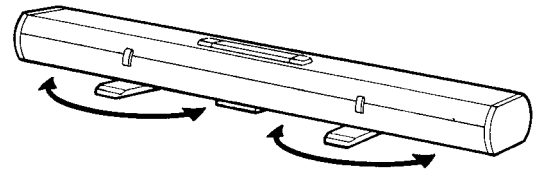

Figure 1
1. Rotate feet until they are perpendicular with the case (Figure 1).
2. Release the latches and open the case cover. **On the 90" and 100" models** remove extending handle and extend it as shown (Figure 1).